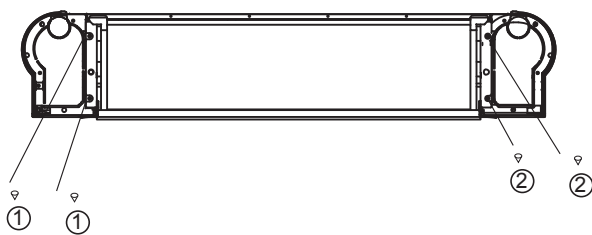
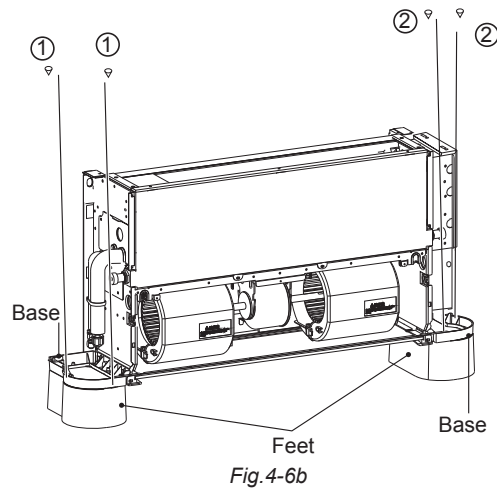

Fig.4-6a Covered equipment
Fig.4-6b
The footings shown in Fig.4-6a, Fig.4-6b are optional. You can purchase them separately and install them as follows:
1. For the covered equipment, fix the base according to Fig.4-6a beforehand.
3. Place the unit base mounting holes into the corresponding feet positioning pin and install the screws ①\*2 and ②\*2 to fix the feet, according to Fig.4-6b.